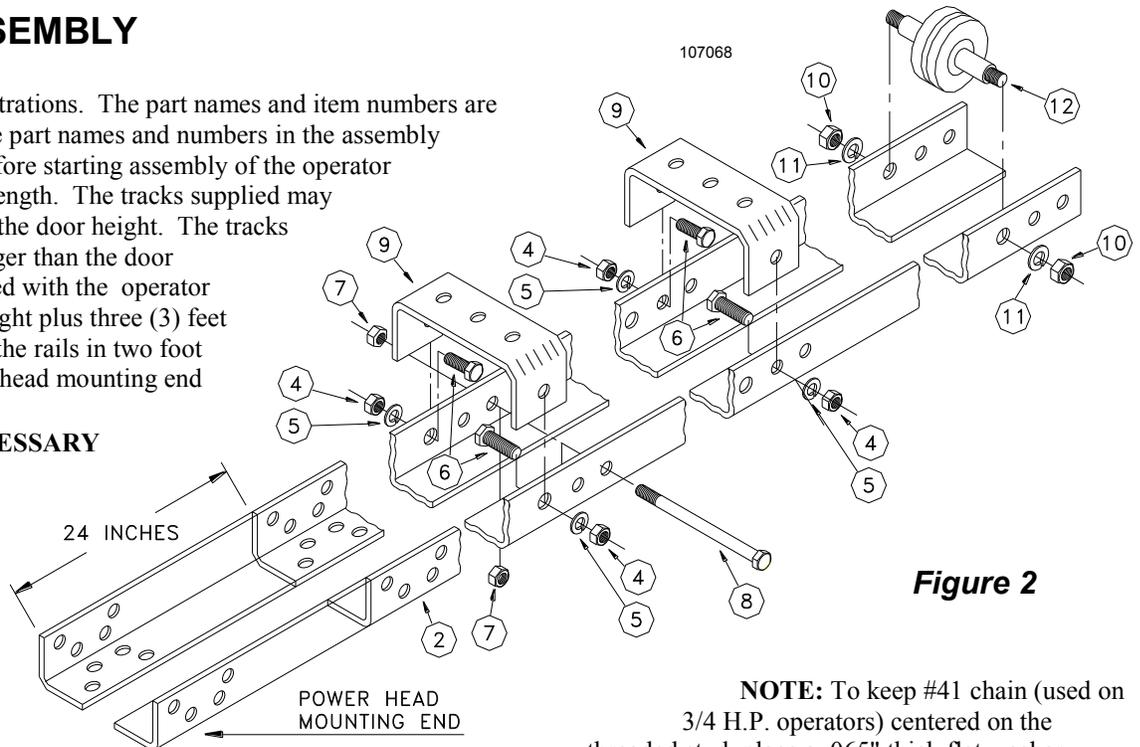

Figure 2
Refer to Figure 1 parts illustrations. The part names and item numbers are referenced identically to the part names and numbers in the assembly procedures that follow. Before starting assembly of the operator track check for the proper length. The tracks supplied may be longer than required for the door height. The tracks should be three (3) feet longer than the door height. If the tracks supplied with the operator are longer than the door height plus three (3) feet it will be necessary to trim the rails in two foot increments from the power head mounting end as shown in Figure 2.
CAUTION: WHEN NECESSARY TO CUT THE TRACK ENSURE THE ENDS ARE LINED UP AS IN FIGURE 2.
1) Assemble the operator track by assembling the items as shown in Figure 2.